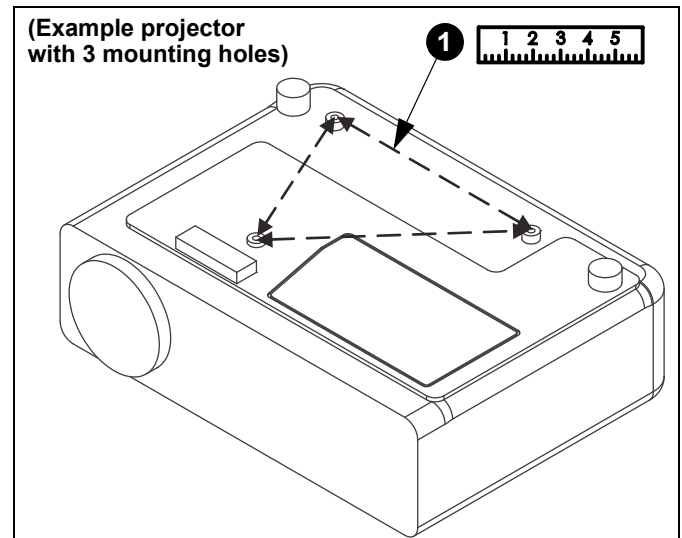

Figure 11
1. Determine the distance between the mounting holes on the projector. (See Figure 11)